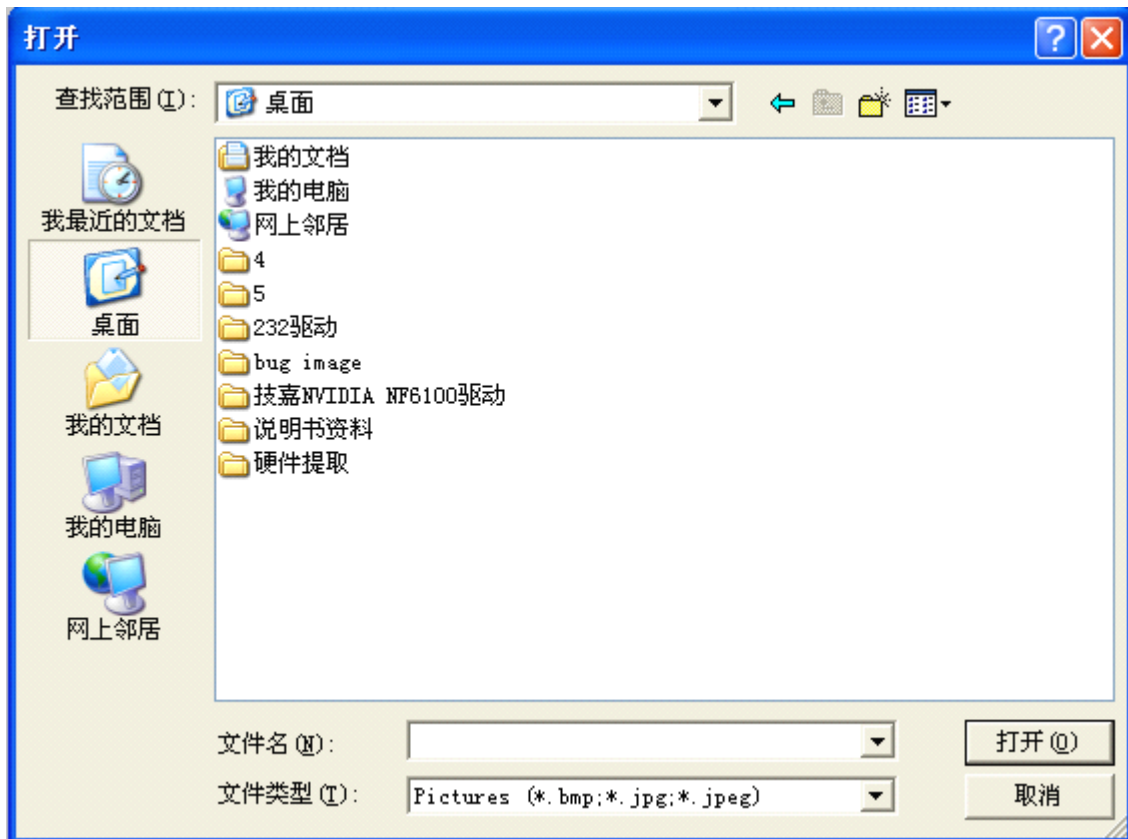

图 4-6
- ◆ Open: click the button , popup the dialog as shown in figure 4-6;